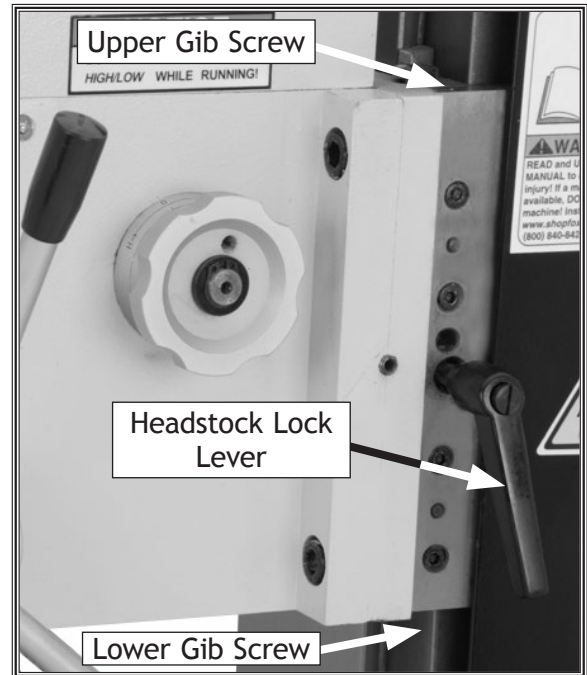

Figure 32. Headstock gib adjustment.
2. Loosen the headstock lock lever (**Figure 32**).
3. Loosen or tighten the upper and lower gib screws (**Figure 32**) in an alternating manner to adjust the headstock gib.